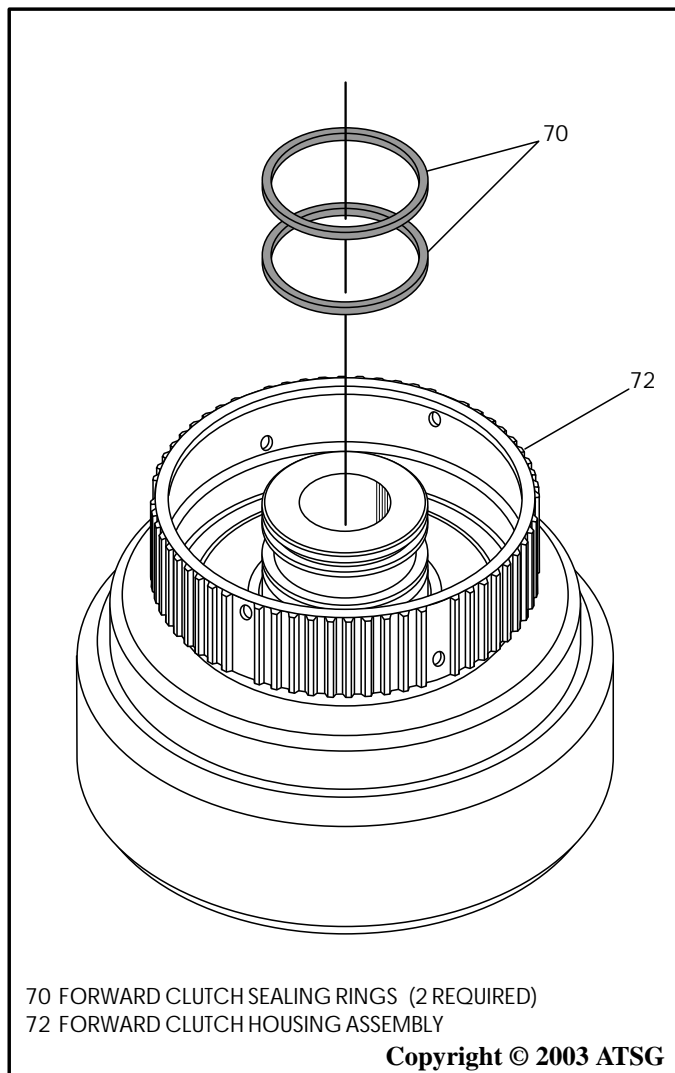

Figure 103
5. Place the forward clutch housing on a flat work surface, in the direction shown in Figure 103, and install new sealing rings.